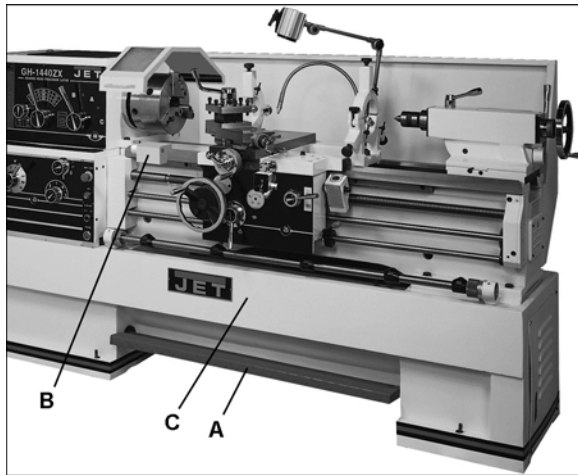

Figure 18 – Other controls
23. **Foot Brake** (A, Figure 18): The connecting rod mechanism is in the bed stand. The braking device is in the pulley of the headstock. Press the pedal to stop all lathe functions. (**Caution:** Lathe still has power.)
24. **Micro Carriage Stop** (B, Figure 18): can be used during manual feed operation. The dial can be turned for fine tuning the position of the stop. The micro carriage stop can be moved along the bed by loosening the two socket head cap screws underneath the stop.
25. **Bed Cover** (C, Figure 18): can be easily removed to clean out the stand.